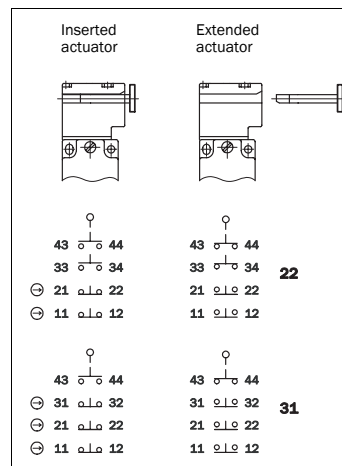

Fig. 3: Switching elements and switching functions for variants with M20 cable entry
- Contact assignments see Fig. 3.